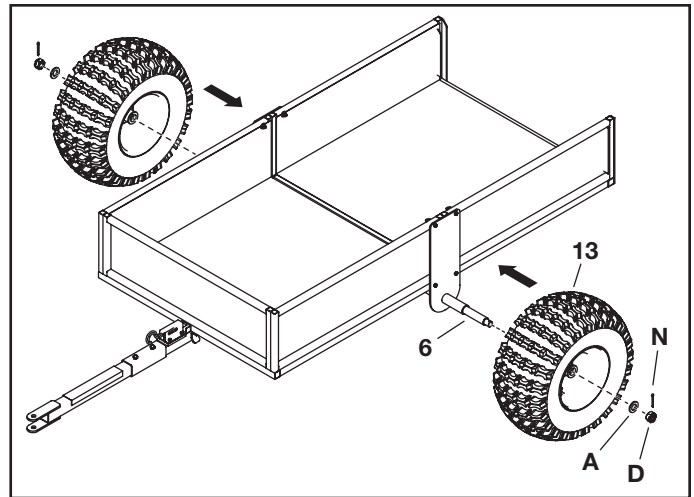

FIGURE 5
STEP 5: (SEE FIGURE 5)
- Slide the two wheels (13) onto the axle spindles (6) with grease fittings and air valves facing outward. Secure with two 20 mm castle nuts (D) and 20 mm steel washers (A). Tighten the castle nuts until snug and then back off slightly to allow free movement of the wheels and cotter pin (N) alignment.
- Insert the two cotter pins (N) through the axle spindles (6) and castle nuts (D) so that the head of each cotter pin is seated in the corresponding castle nut. Using a pair of pliers, bend the prongs of the two cotter pins around the other side of the castle nuts so that the cotter pin cannot fall out.